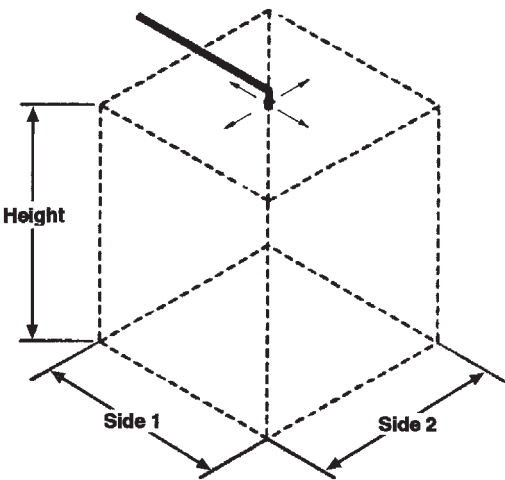

FIGURE 4
Nozzle: The nozzle is to be mounted in the center of the protected area, with the discharge holes in the nozzle no greater than six (6) in (15.29 cm) from the ceiling. See Figure 4.